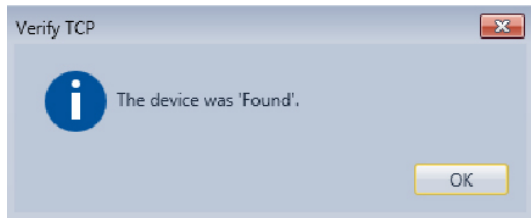
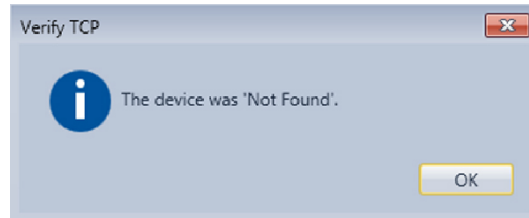

Figure 3.2a—Device Found
Figure 3.2b—Device Not Found
4. Click **Verify TCP** to determine if the TCP/IP connection can be found at the provided IP address and port number. See Figure 3.2a and Figure 3.2b for the possible responses. If the device was not found, check your settings and/or network configuration, and try again.